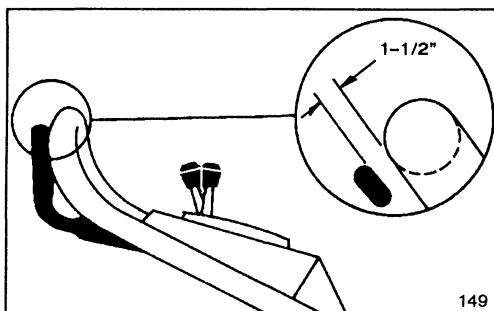

Figure 16
2. Lift control bar until some resistance is felt. Control bar should be 1-1/2" from handle when properly adjusted (Fig. 16).